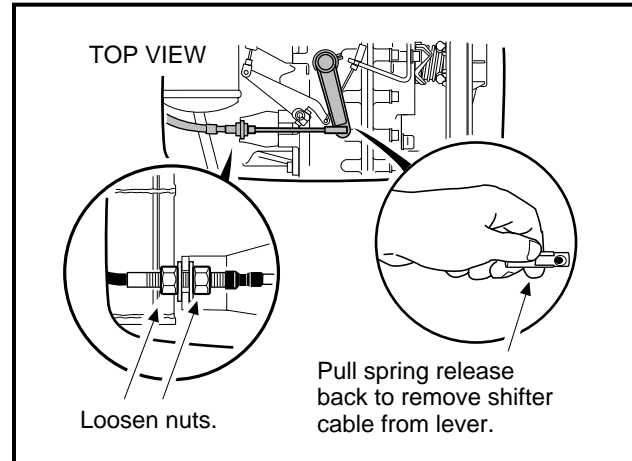

Figure 16-15 Shifter Cable
- 3.7. Loosen nuts securing shifter cable to shifter cable mounting bracket. Then disconnect the shifter cable rod end from the shifter arm on the unitized transaxle and remove the cable from the cable mounting bracket (**Figure 16-15, Page 16-9**).